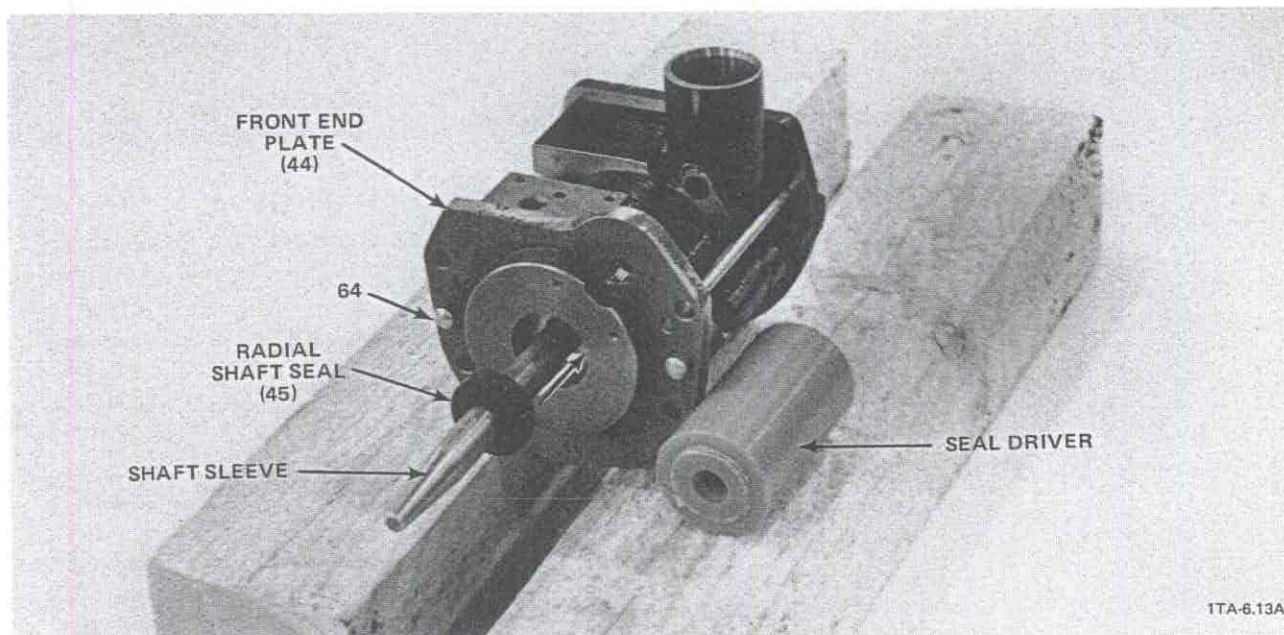

Figure 5-22. Using a Shaft Sleeve to Install the Radial Shaft Seal into the Front End Plate (D2A Pump Model Shown)
Method (1) — Insert the new seal into its slot in the rear end plate. Using a hammer and a seal driver (see Figure 5-22), recess the seal in the slot.
- (2) **NOTE:** If the two remaining cylindrical pins (64) have a beveled end, the beveled end should face away from the center of the module.
REQUIRED ACTION: Align the two alignment holes in the front end plate (44) with the two alignment holes in the second stage cylinder (46). Using a rubber hammer, drive the remaining two cylindrical pins (64) into the alignment holes until the pins (64) extend about 3/16 inch out of the outside surface of the front end plate (44) (see Figure 5-22).
- (1) Insert the seal using one of the following methods.
Method (a) — Insert a shaft sleeve over the shaft (see Figure 5-22); slide the seal (45) over the shaft sleeve and insert the seal into its slot in the front end plate; remove the shaft sleeve from the shaft.
Method (a) — Slide a seal driver over the shaft; using a hammer, strike the seal driver to indent the seal into its slot in the front end plate; remove the seal driver from the shaft (see Figure 5-22).